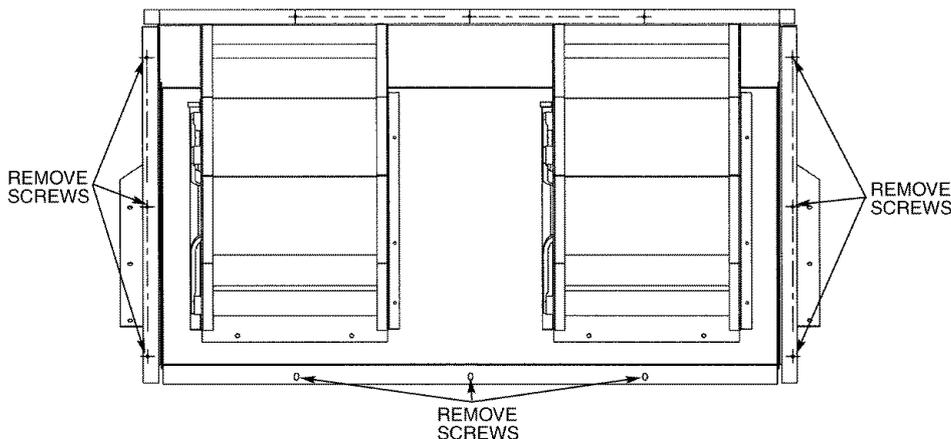

Fig. 22 — Power Exhaust or Barometric Relief Damper Mounting Details
1. Remove 9 screws holding each damper assembly in place. See Fig. 22. Each damper assembly is secured with 3 screws on each side and 3 screws along the bottom. Save screws.